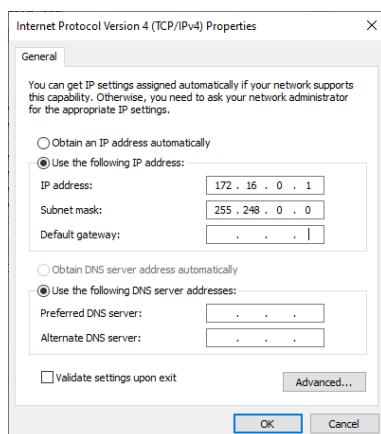

Fig. 4.9: Windows "Internet Protocol Version (TCP/IPv4) Properties"
5. Configure the "Internet Protocol Version (TCP/IPv4) Properties" as in **Fig. 4.9**.